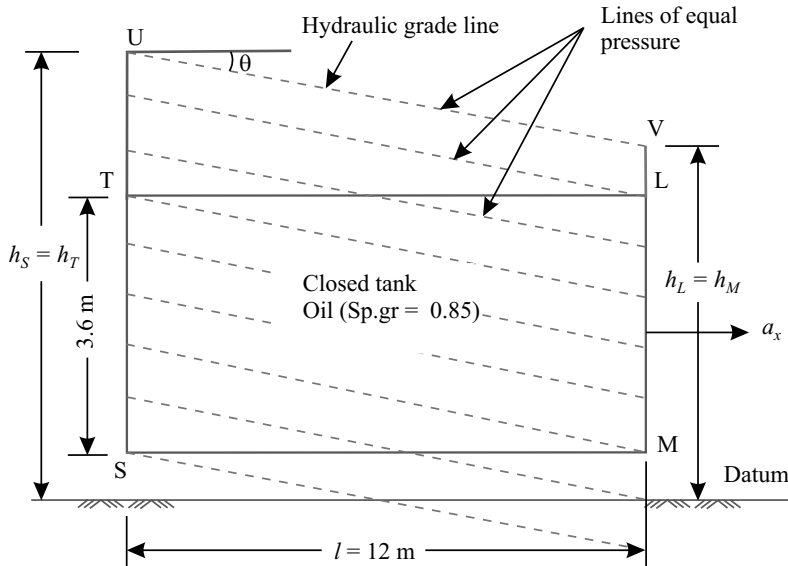

Fig. 6.87
Refer to Fig. 6.87. At an acceleration of a_x let UV be the hydraulic gradient line. Its inclination is given by,
- (ii) Since the pressure distribution is hydrostatic in any vertical direction and the hydraulic gradient line is inclined at θ to horizontal (line UV) the lines of equal pressure will be parallel to UV, as shown in Fig. 6.87.